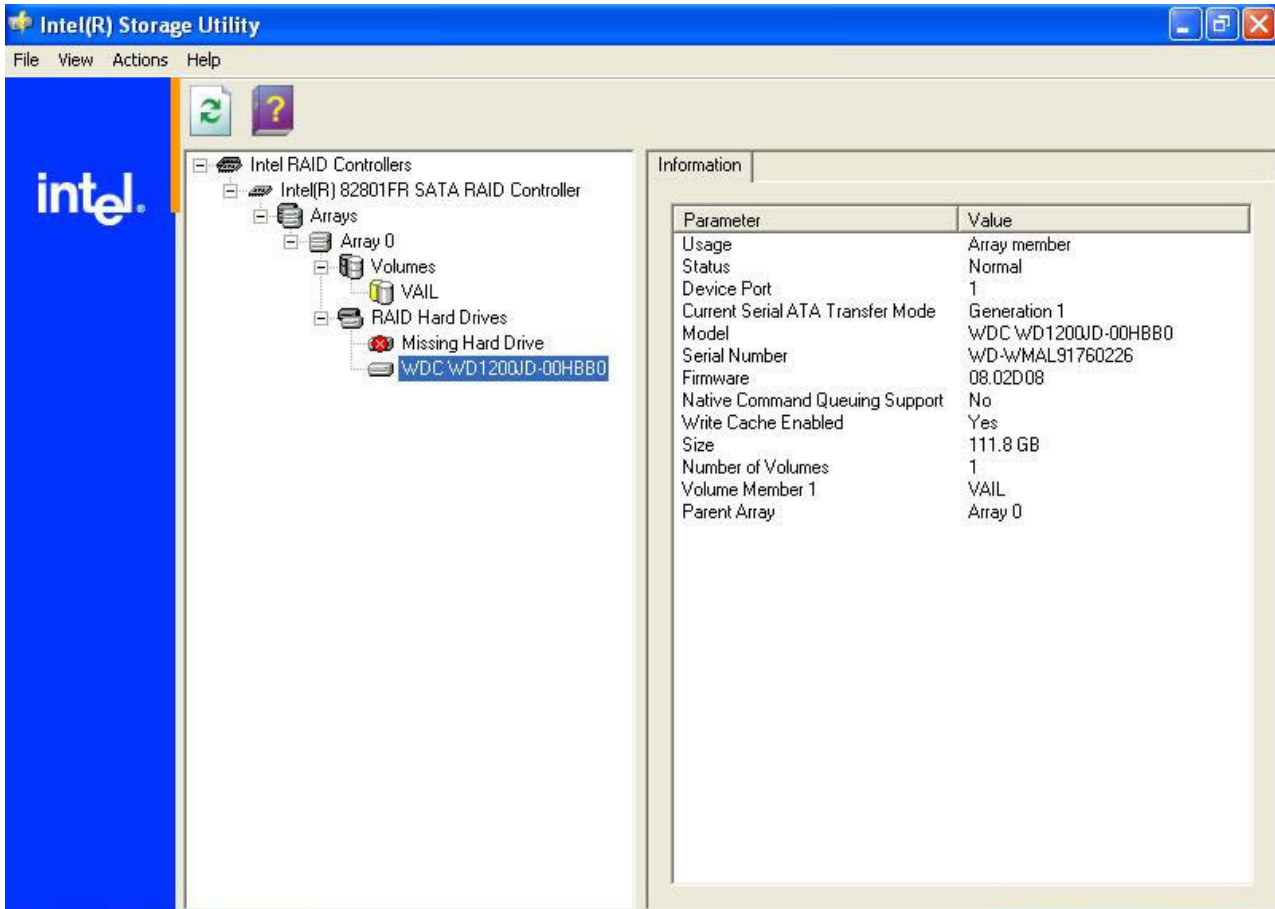

Figure 2. Disk drive failure
2. Determine which hard disk drive has failed by opening the *detected* hard drive (see Figure 2). In the example, the detected hard drive's Device Port is 1; therefore, the failed hard drive is located on Device Port 0.